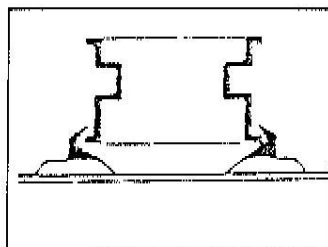
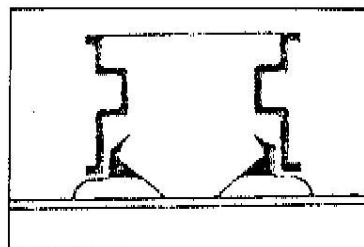

Fig.7
Fig.8
3. The positioning scale on the turntable show the position of the rim directly(Fig. 6). Place the tyre on the turntable after choosing the locking method.(Normally when working for aluminum alloy rim , outside locking is suitable, inside locking is seldom used.) (Fig. 7 and Fig. 8)